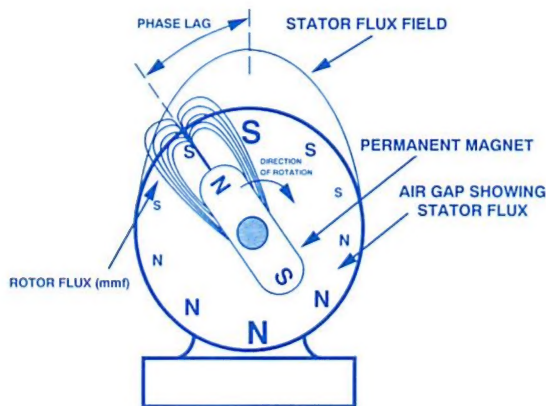

Figure 1. Relationship between rotor- and stator flux in the dc permanent-magnet synchronous motor.
**Motor principles:** To understand what the AD2S100 does, a basic understanding of motors is necessary. Conceptually simpler than the induction motor, the dc permanent-magnet synchronous motor (PMSM) provides a good starting point. The dc PMSM's input is commutated to produce a rotating magnetic field in the air gap between the stator and rotor. Permanent magnets attached to the rotor continually seek to line up with the stator's rotating field, turning the rotor with torque equal to the product of the magnetic force and the rotor's diameter. Figure 1 shows the relationship between rotor and stator flux. The rotor normally turns at the same speed as the stator field, with a phase lag that depends on load.